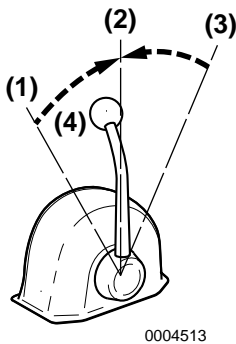

Figure 2
Use the throttle handle (**Figure 2, (4)**) to control acceleration and deceleration. Move the handle slowly.
2. **NOTICE: NEVER shift the marine gear at high engine speed. During normal operation, the marine gear should only be shifted with the engine at idle.** When moving the handle between FORWARD (**Figure 2, (1)**) and REVERSE (**Figure 2, (3)**), bring the clutch to NEUTRAL (**Figure 2, (2)**) and pause before slowly shifting to the desired position. Do not shift abruptly from FORWARD to REVERSE or vice versa.